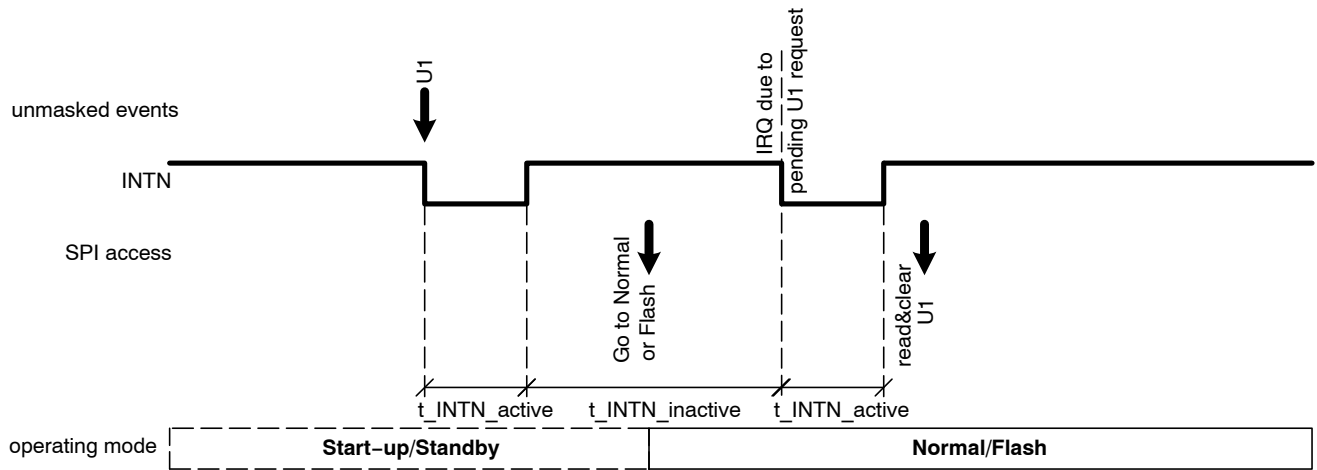

Figure 15. Interrupt Request Handling during a Transition to Normal Mode
- All event flags are preserved when transitioning from Start-up to Normal mode – see Figure 15.
- All event flags are preserved when transitioning from Standby to Normal mode – see Figure 15.